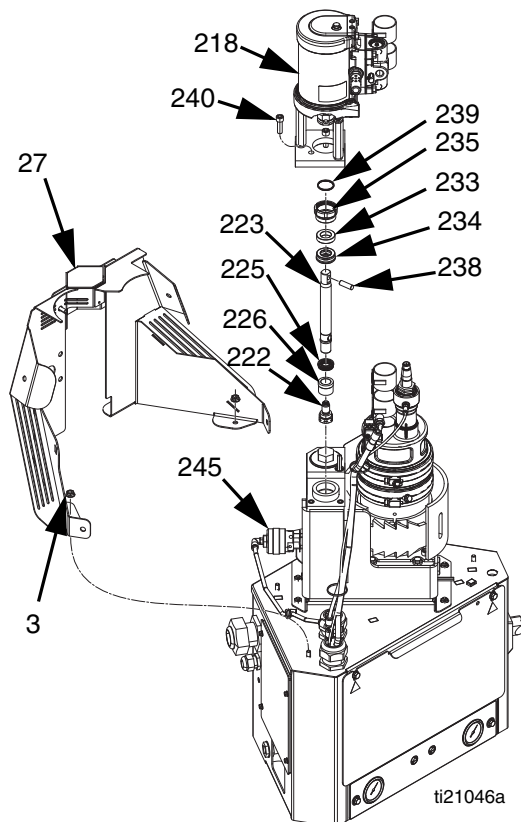
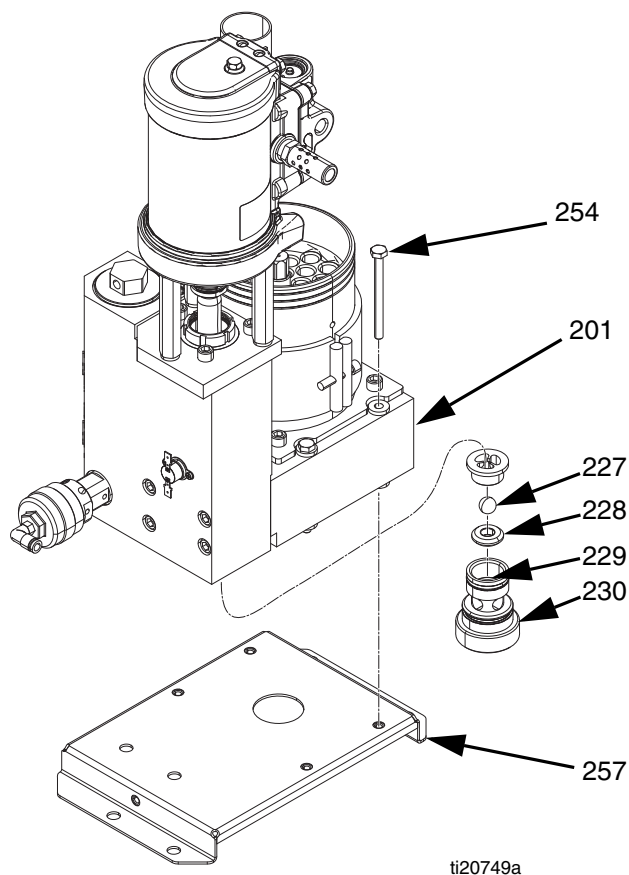

FIG. 27
FIG. 31
Disassembly (see FIG. 27):
Reassembly (see FIG. 27):
9. Install air motor assembly (see FIG. 27):
- a. Install three screws (240).
- b. With retaining ring around piston rod, install dowel pin (238).
- c. Install retaining ring (239) over dowel pin.
10. Use nuts (3) to install melter shield (27).
12. Install plastic shroud (27).
Disassembly (see FIG. 31):
Reassembly (see FIG. 31):
4. Remove plastic shroud (27). See FIG. 27 on page 54.
5. Remove air lines from relief valve (245) and air motor (218) See FIG. 27 on page 54.
6. Remove nuts (3) securing melter shield (27) in place then remove melter shield. See FIG. 27 on page 54.
7. Remove air motor assembly. See FIG. 27 on page 54:
- a. Remove retaining ring (239).
- b. Remove dowel pin (238).
- c. Remove three screws (240).
8. Use a flat head screwdriver and a rubber mallet to break loose the retaining nut (235).
9. Use channel lock pliers to remove the retaining nut (235).
10. Insert an allen wrench through the hole in the top of the piston rod (223) to lift the piston rod (223) up out of the manifold. This will also pull out the throat u-cup (234) and throat bearing (233).
12. Use a 1/2 in. drive ratchet without a socket to remove foot valve (230) from bottom of melter outlet manifold (203).
13. Insert cylinder tool (1301) into bottom of melter outlet manifold (203). Use a rubber mallet to gently remove cylinder (216). See FIG. 31.
14. Remove and discard cylinder seals (217). See FIG. 31.
1. Apply grease to seals (217) then install new cylinder seals (217) onto cylinder (216). See FIG. 31.
3. Use male cylinder installation tool (1303) to press cylinder (216) into melter outlet manifold (203). If necessary, use rubber mallet tap into place. See FIG. 31.
4. Use a 1/2 in. drive ratchet without a socket to install and tighten foot valve (230) into bottom of melter outlet manifold (203).